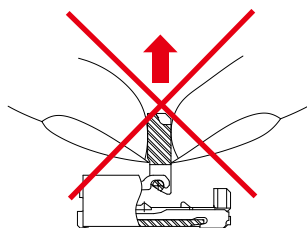

Fig. 2
- ③ The actuator will rotate 125°C. Do not apply force to rotate further.
- ④ When opening or closing the actuator, do so at the center section.
- ⑤ Do not grasp or and lift the actuator (Fig. 2) nor insert the nail from the back of it (Fig. 3).